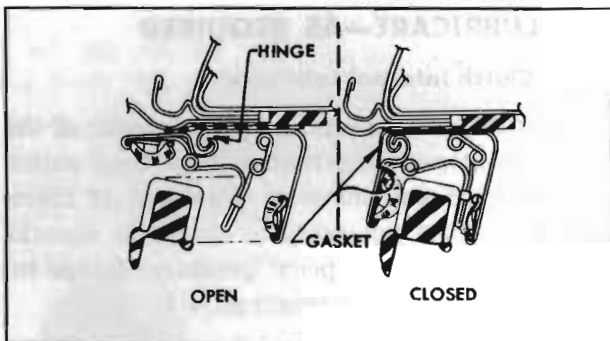

Figure 1-15—Sealing Strip Lubricare
1. Open the door and apply a coat of Lubriplate No. 107 or No. 110 to entire length of hinge indicated in figure 1-15. Wipe off any excess. Do not apply this lubricant to the awning gasket.
2. Close the door and apply a thin coat of "DC-4" Silicone Compound or "DC-7" Silicone Emulsion to both sides along length of the awning gasket indicated in figure 1-15. Wipe off excess compound to avoid accumulation of dust.